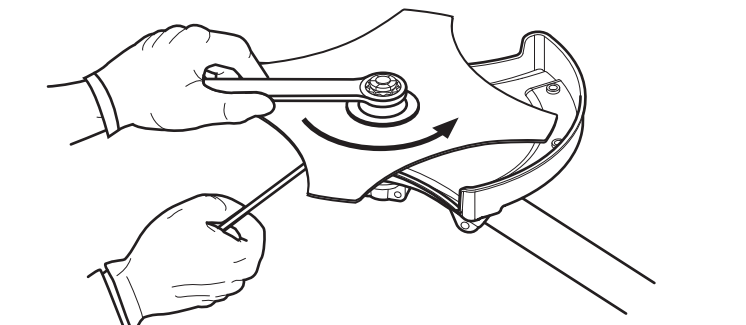

Fig. 30
7. Tighten the nut counterclockwise with a wrench (Fig. 30):